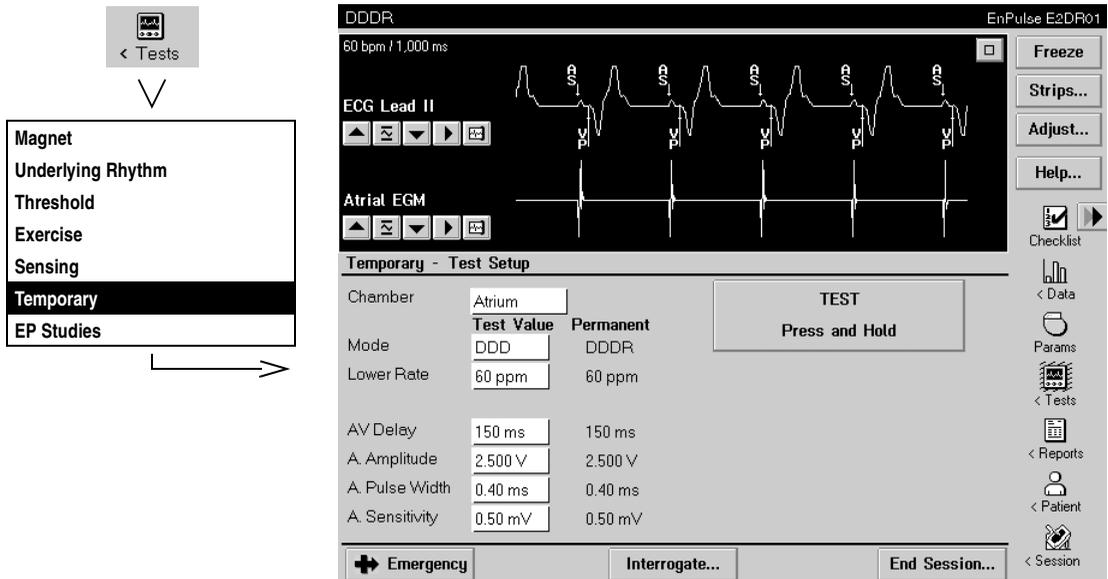

Figure 6-8. The Temporary Test setup screen
1. Display the Temporary Test Setup screen (see Figure 6-8 on page 6-29).
1. From the Temporary Test Setup screen (see Figure 6-8 on page 6-29), select the desired test chamber and a single chamber test mode.